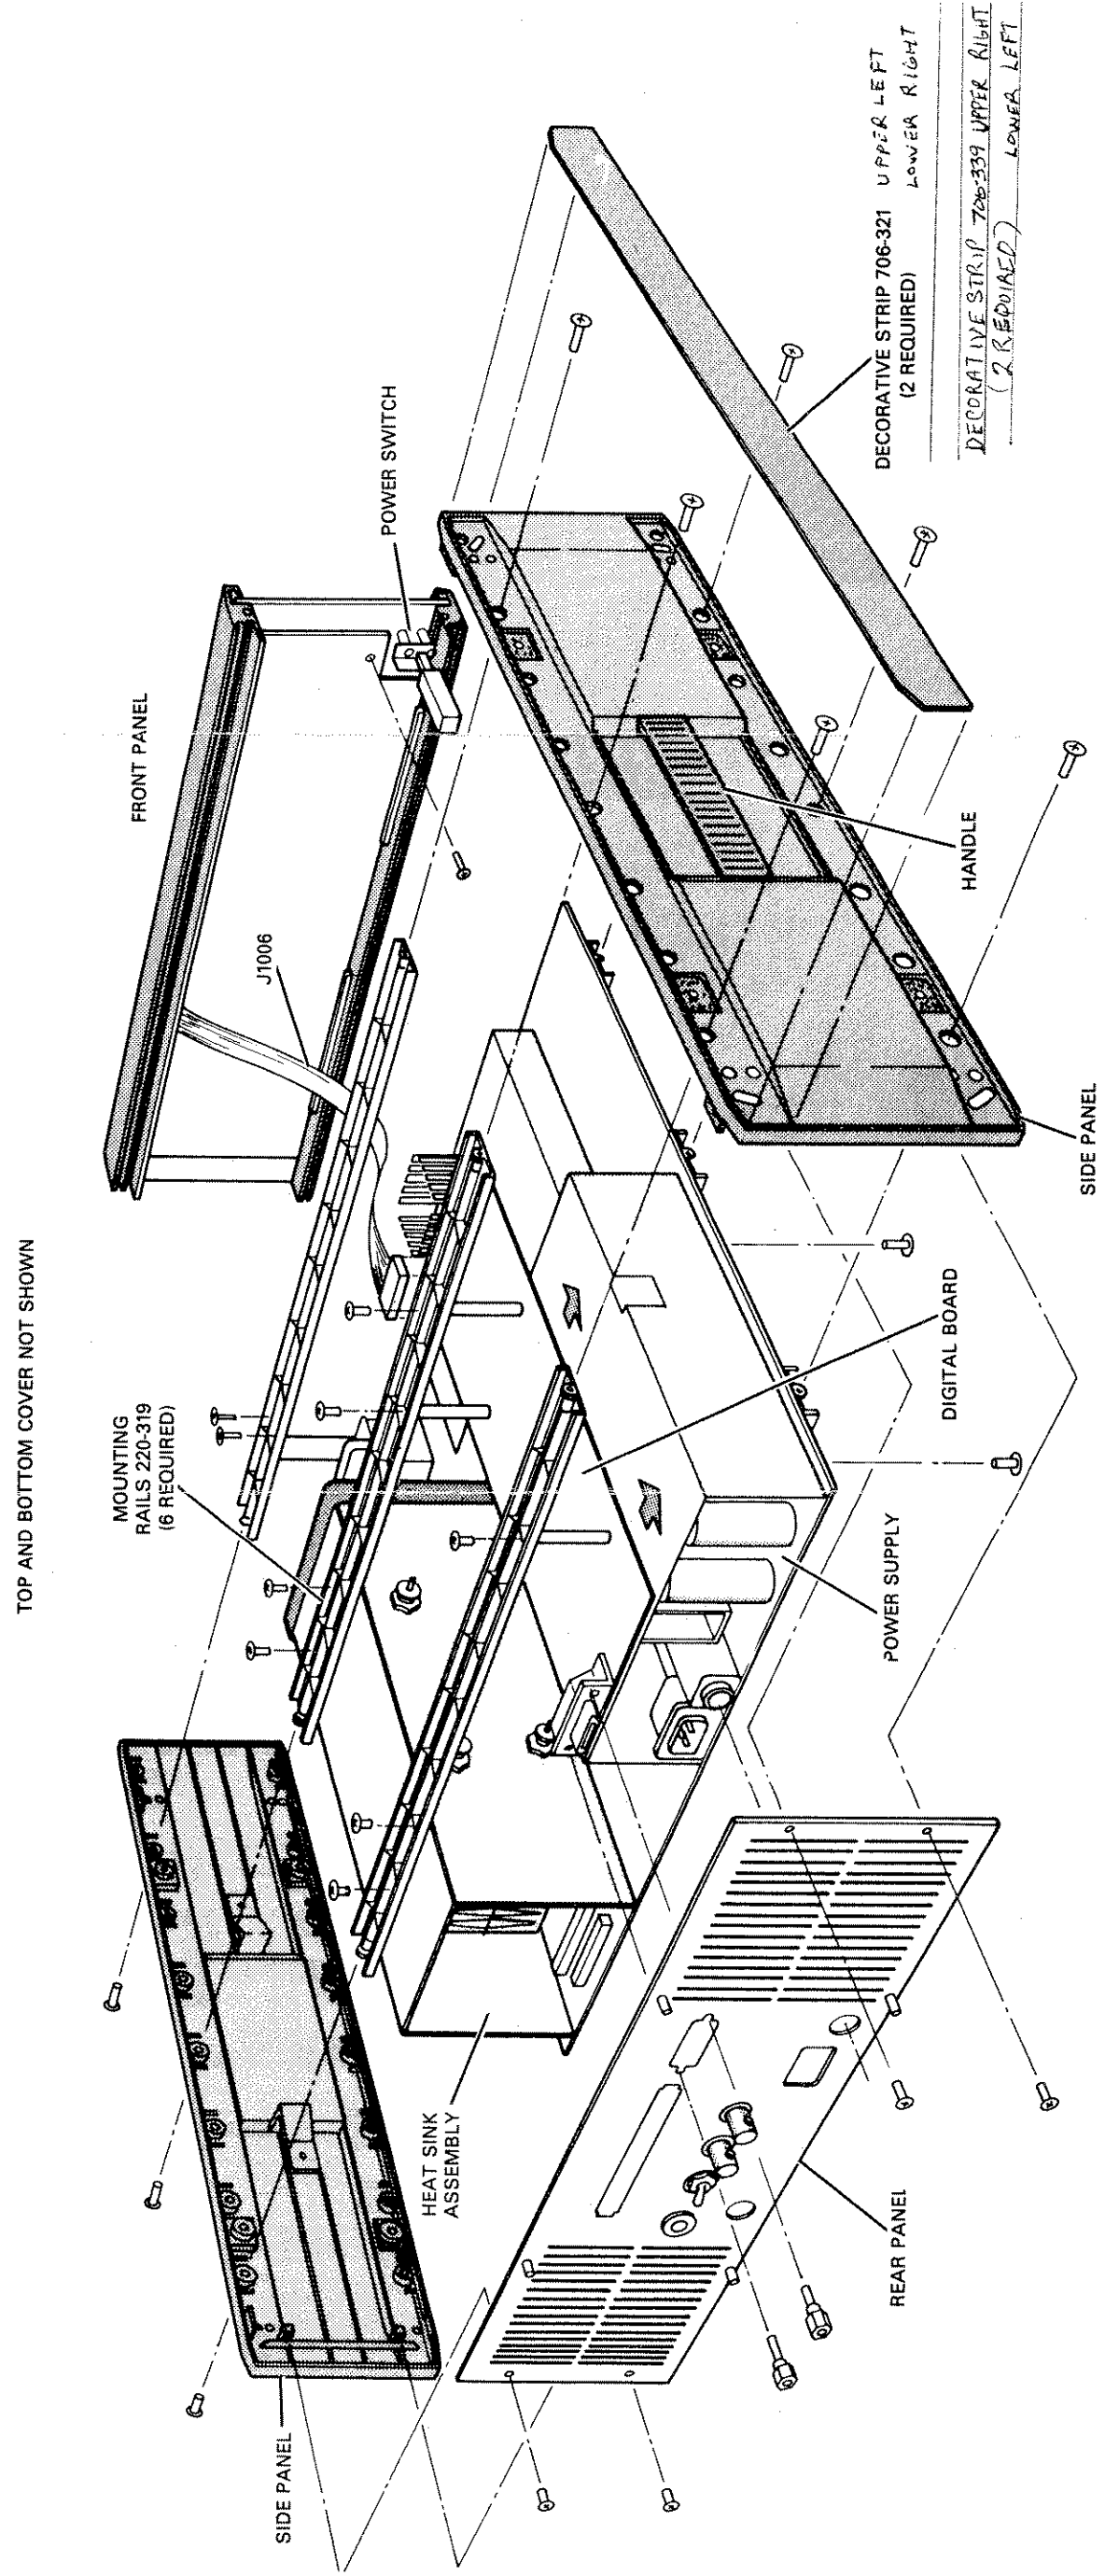

Figure 7-3. Model 228 Exploded View
2. Remove the decorative strips from the side panel. Refer to Figure 7-3.